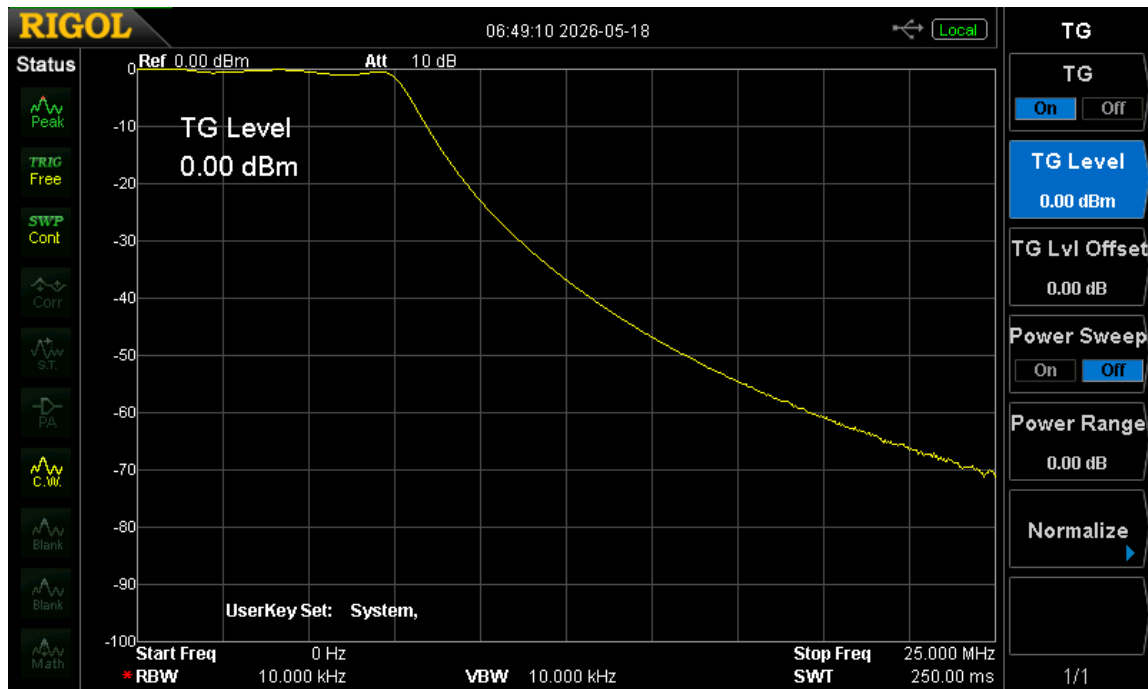

Figure 2: Chebyshev Low-Pass Filter Bode Plot
When transmitting, the MCU reprograms the Si5351 clock generator's output for each of the eight FT8 Frequency Shift Keying (FSK) tones, a direct FSK scheme, unlike the Audio FSK (AFSK) widely used with a SSB transmitters' microphone jack. Frequency stability is achieved by locking the Si5351 to a low jitter Temperature Controlled Crystal Oscillator (TCXO) reference. The Si5351's output is buffered by one element of a SN74ACT244 octal bus driver whose remaining seven buffers function in parallel as the transmitter's QRPP power amplifier (PA). A five-pole Chebyshev low-pass filter with 1 dB of ripple (Figure 2) peaking near the expected operating frequency provides harmonic rejection. The PA delivers 275 mW through the filter.